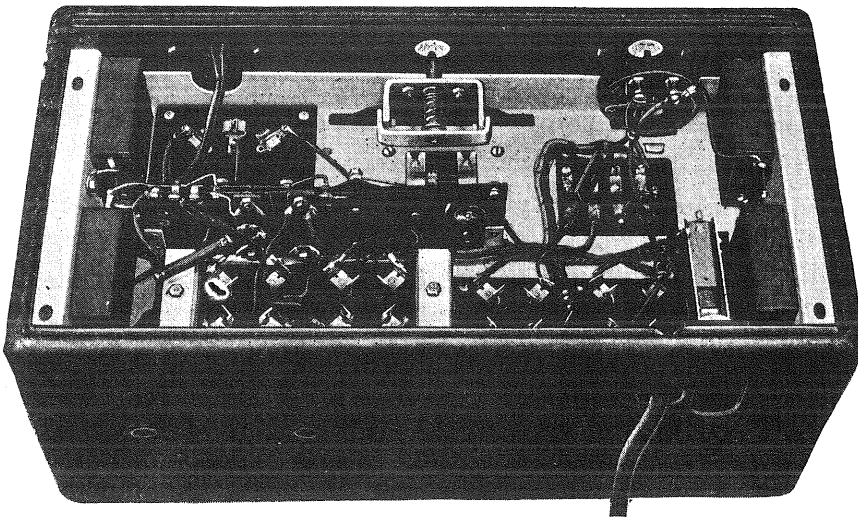

Figure 12—Bottom interior view with bottom removed and cable in place
- (c) Remove the four machine screws that are in the center of the felt feet and then remove the bottom from the cabinet. Some parts such as grid leaks, fixed condensers, etc., may be replaced without further dismantling (see Figure 12).